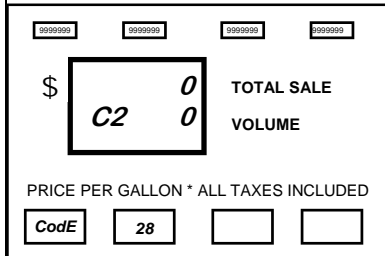

Figure 99.2
2. To change the setting, use the 0,1 or 2 button on the keypad to enter a new option. Press **ENTER**. The display moves to the Configuration 2 mode. See Figure 99-2. The choice is 0 for two decimal places or 1 for three decimal places. *This only affects a dispenser set for liters or centiliter.*